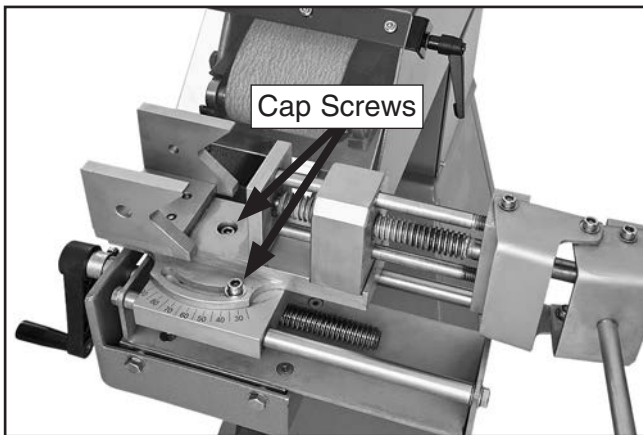

Figure 16. Vise assembly attached.
17. Position vise assembly on vise mount and secure it with cap screws removed in **Step 16** (see **Figure 16**).